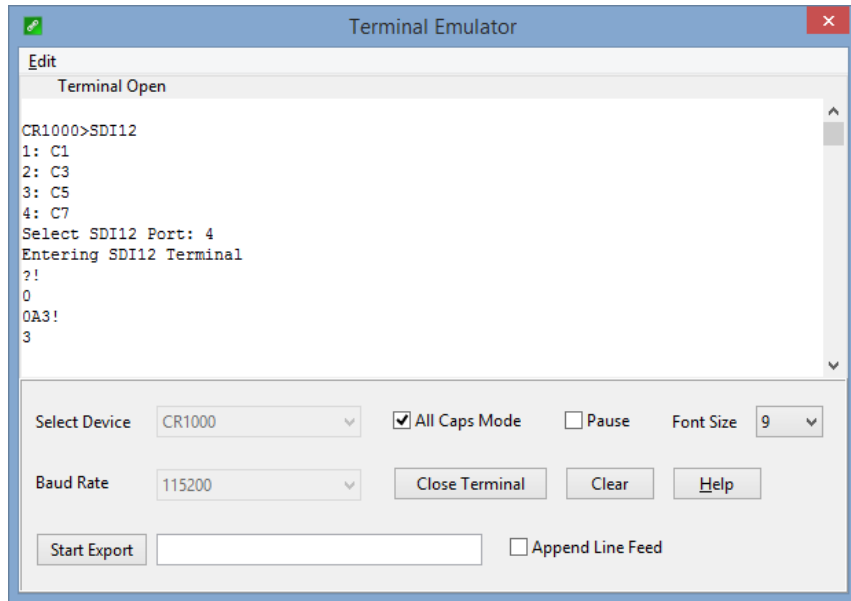

FIGURE D-1. CR1000 example of using the SDI-12 transparent mode to change the SDI-12 address from 0 to 3. Sensor is connected to control port 1.
10. To change the SDI-12 address, type **aAb!** , where *a* is the current address from the above step and *b* is the new address (see FIGURE D-1). Press Enter. The sensor changes its address and responds with the new address.
D.3.2 Changing an SDI-12 Address – CR200(X) Series
10. To change the SDI-12 address, type **aAb!**, where *a* is the current address from the above step and *b* is the new address (see FIGURE D-1). Press Enter. The sensor changes its address and responds with the new address.